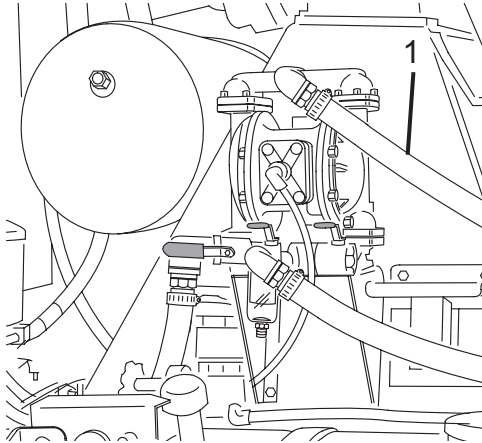

Figure 113
- Open the drain petcock located at the lowest point in the supply hose (Figure 113, Item 1).